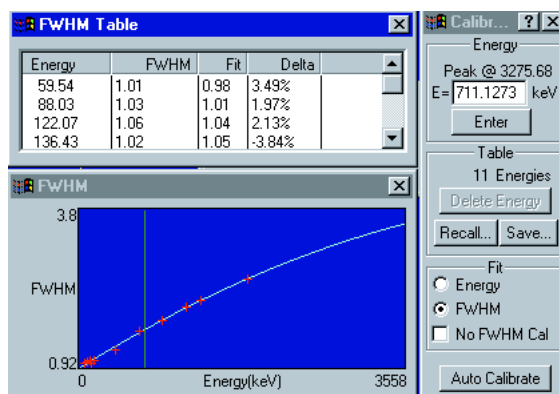

Fig. 19
1.18 Inspect the **FWHM** calibration by selecting **FWHM** in the **Calibr** window. The table and graph will immediately display (Fig. 19). The trend for the FWHM is increasing with energy — although non-linear.